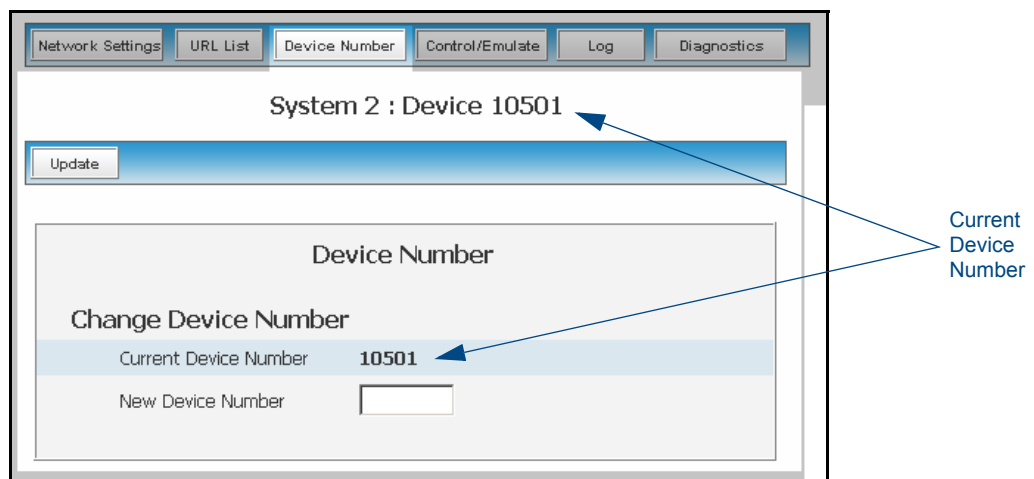

FIG. 55 Device Number dialog
3. Click the **Device Number** button to open the Device Number (FIG. 55). This dialog allows the user to change the device number for the selected device.